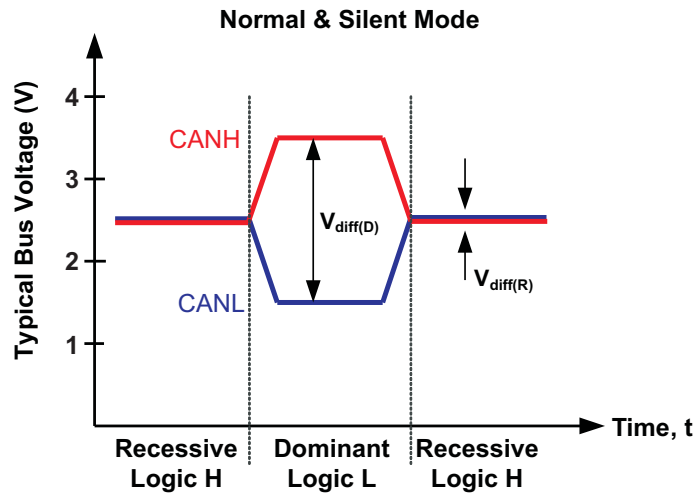
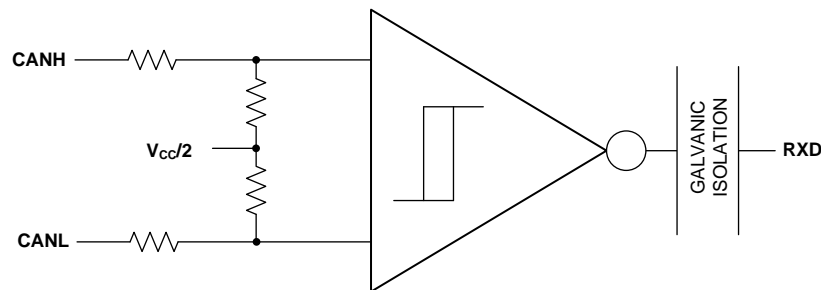

Figure 23. Bus States (Physical Bit Representation)
Figure 24. Simplified Recessive Common Mode Bias and Receiver
The CAN bus has two states during operation: *dominant* and *recessive*. A dominant bus state, equivalent to logic low, is when the bus is driven differentially by a driver. A recessive bus state is when the bus is biased to a common mode of V_{CC} / 2 through the high-resistance internal input resistors of the receiver, equivalent to a logic high. The host microprocessor of the CAN node will use the TXD pin to drive the bus and will receive data from the bus on the RXD pin. See Figure 23 and Figure 24.
(1) H = high level, L = low level, Z = common mode (recessive) bias to $V_{CC} / 2$. See Figure 23 and Figure 24 for bus state and common mode bias information.